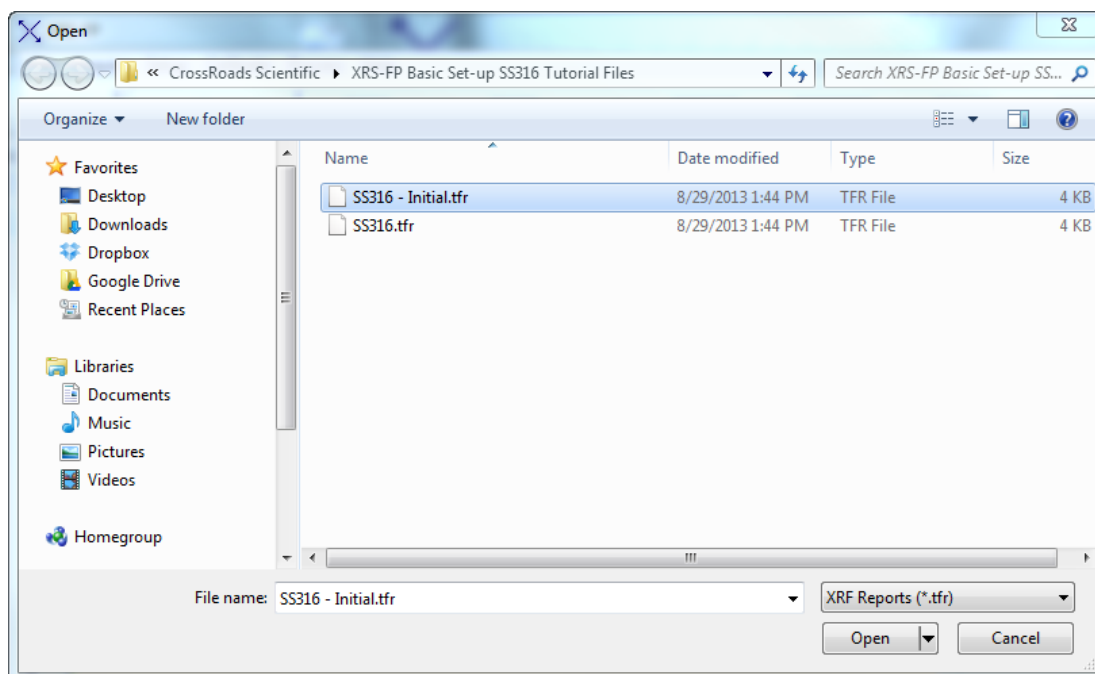

Figure 4. File Open Menu. Open the stainless steel SS316 TFR file, e.g. “SS316.tfr”.
4. From the XRS-FP Expert Panel: Select **File** -> **Open** -> “C:\CrossRoads Scientific\XRS-FP Basic Setup SS316 Tutorial Files\SS316 - Initial.tfr” (or equivalent location). See Fig. 4 below.